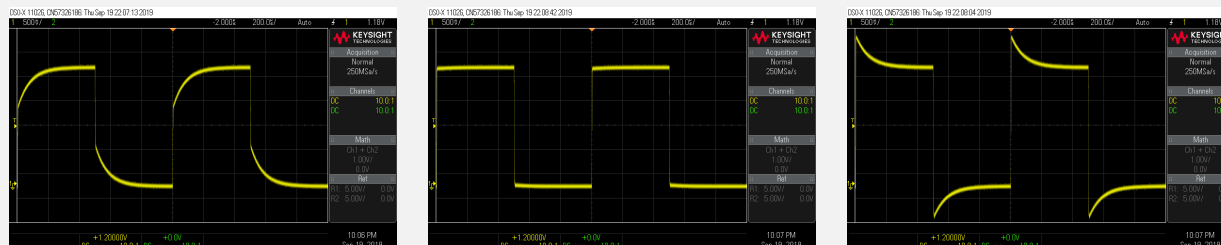

Figure 5: Square waves from probes with different compensations. From left to right: over-compensated, well-compensated, under-compensated.
4. Measure two instances of the time constant, τ —one when the oscilloscope probe is fully under-compensated and one when the oscilloscope probe is full over-compensated. (The oscilloscope waveforms should appear similar to those shown in Fig. 5.)
As you can see in Figure 5, when compensating the probe using the oscilloscope's reference signal, you can have either overshoot or undershoot on the square wave. You can attach the probe tip to the probe compensation terminal and connect the probe to an input of the scope. Viewing the square wave reference signal, make the proper adjustments on the probe using a small screw driver so that the square waves on the scope screen look square. What you are adjusting is a variable capacitor at the tip of the probe. If low-frequency adjustment is not properly made, this will result in high-frequency inaccuracies in your measurements. It's very important to make sure this compensation capacitor is correctly adjusted.